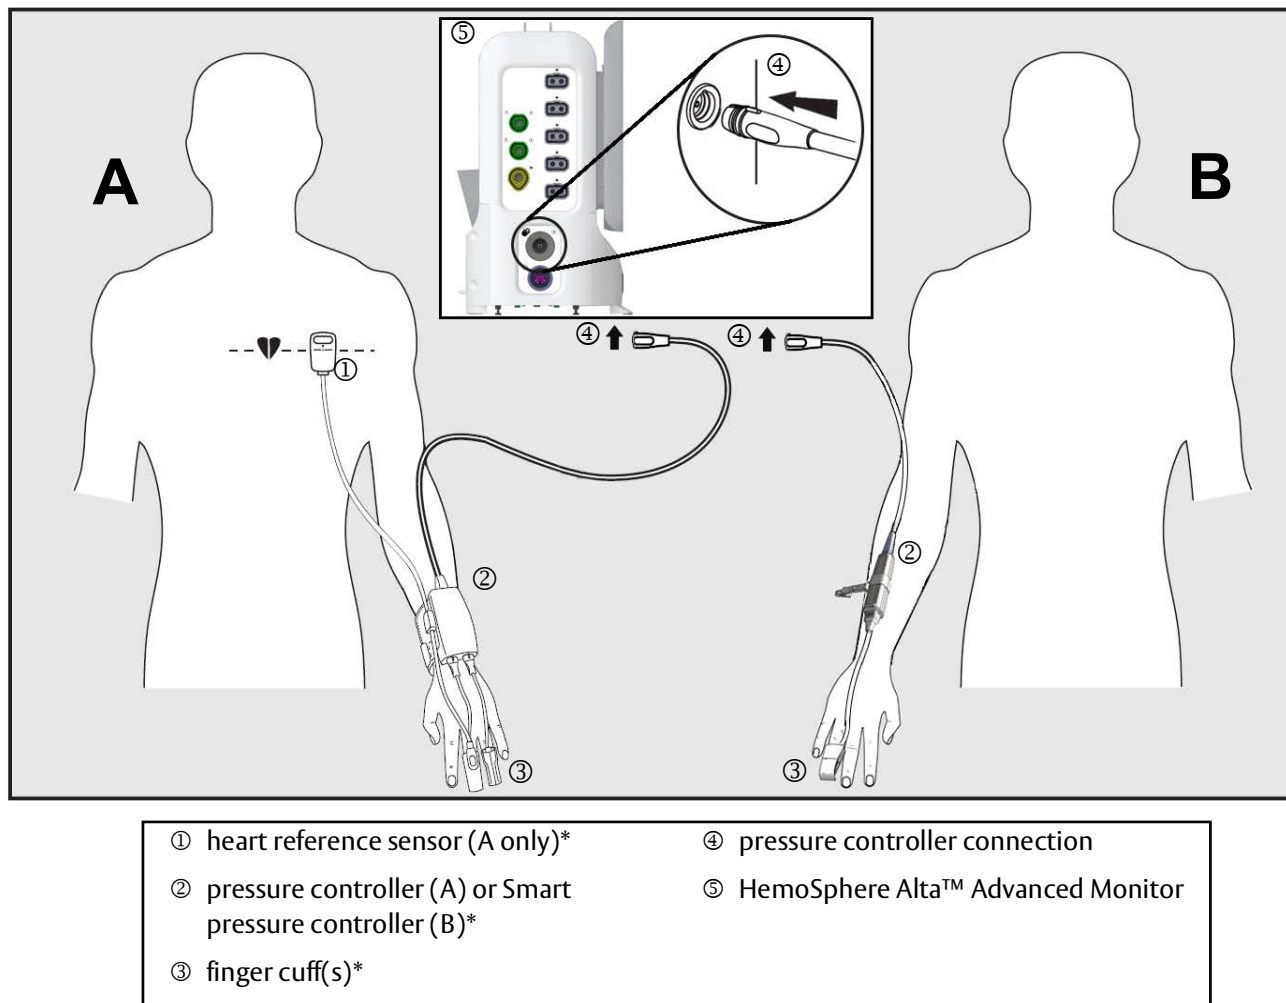

Figure 10-1 HemoSphere Alta™ Non-Invasive System connection overview (A: wrist applied pressure controller, B: Smart pressure controller)
The HemoSphere Alta™ Non-Invasive Monitoring System is composed of the HemoSphere Alta™ Advanced Monitoring Platform with connected pressure controller, heart reference sensor, and compatible finger cuff(s). See system connections in Figure 10-1 on page 182. Accurate measurement of the patient's blood pressure and key hemodynamic parameters is based on the Volume Clamp method, Physiocal™ Method and ClearSight™ Algorithm.
HemoSphere Alta™ Non-Invasive Finger Cuff technology is compatible with all approved non-invasive finger cuffs. See figure 10-1 for an overview of the HemoSphere Alta™ Non-Invasive System connections.
NOTE Components indicated by a "*" in figure 10-1 legend are APPLIED PARTS as defined in IEC 60601-1 that in normal use necessarily come into physical contact with the patient for the HemoSphere Alta™ Non-Invasive System to perform its function.
- 3 Attach the pressure controller cable to the HemoSphere Alta™ Advanced Monitor. (figure 10-1)
- 1 Insert the Smart pressure controller cable into the non-invasive technology port of the monitor (figure 10-1).